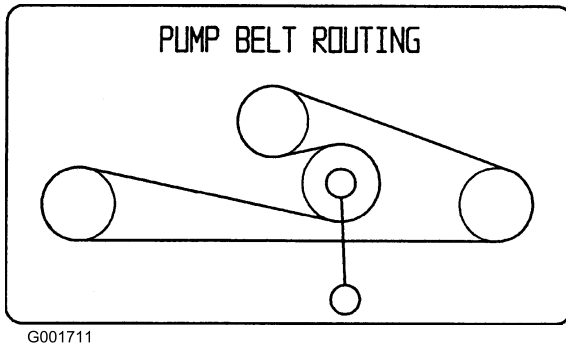

Figure 59
pulleys (Figure 59). Remove belt between pulleys.
2. Install new belt around engine and hydro pump pulleys (Figure 59).
3. Pull spring loaded idler down and align below traction belt. Release the pressure on the spring loaded idler (Figure 59).